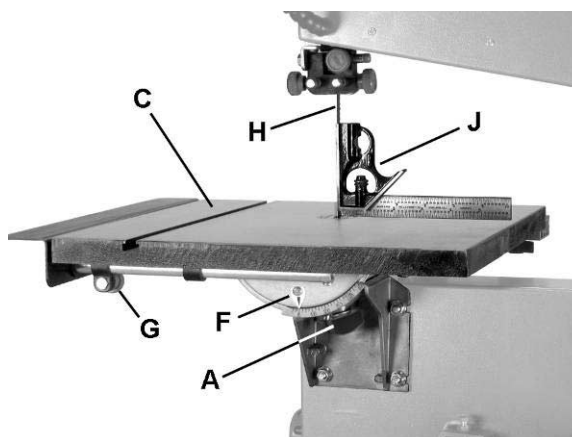
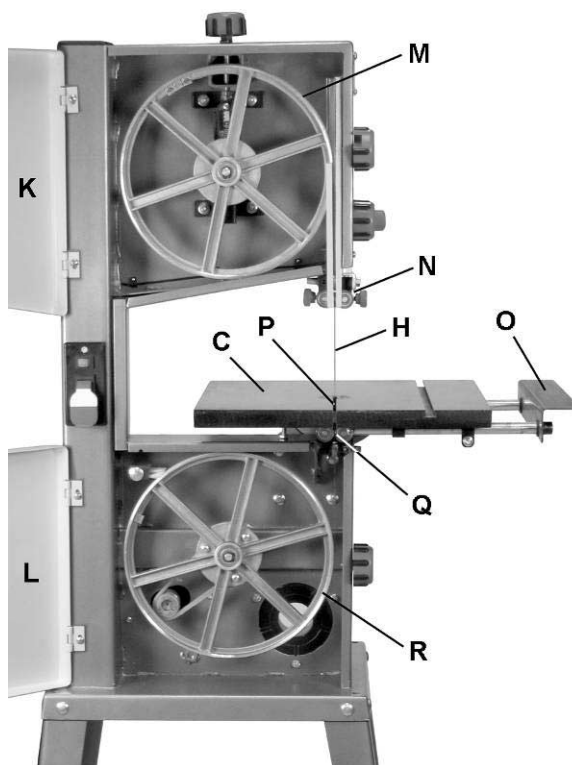

Figure 8
Figure 9
3. Use a *square* (J, Fig. 8) placed on the *table* (C, Fig. 8) and against the *blade* (H, Fig. 8) to see if the table is 90° to the blade.
2. Confirm that the *table tilt indicator* (F, Fig. 8) points to zero.
2. Open both *wheel covers* (K, L, Fig. 9).
3. Loosen *lock knob* (G, Fig. 8) and pull *extension* (O, Fig. 9) away from the *table* (C).
Referring to Figure 9:
The blade must be slightly tensioned (see previous section) before adjusting blade tracking. Make sure *blade guides and bearings* (N, Q, Fig. 9) do not interfere with the blade. If blade tracking is required, blade guide adjustment is described on the following page.